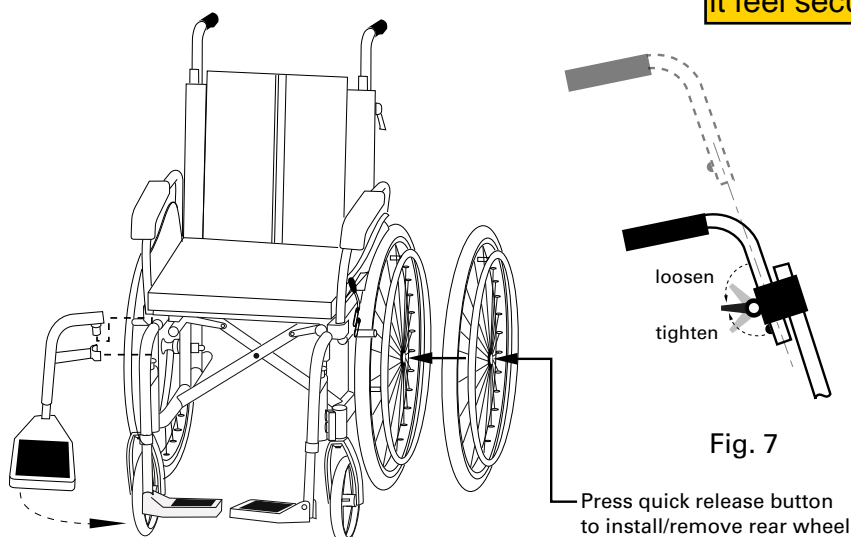

Fig. 6
- 1.** To remove or attach the rear quick release wheels press the detent release button on the axle with your thumb and pull to remove or push to attach. (ref. fig. 6)
- 3.** Attach the footrest hangers by sliding it into the frame from the outside and then swinging it towards the front allowing the catch to hold the footrest in place securely. Flip footrest down for feet to rest upon. (ref. fig. 6) To remove pull the release lever on the footrest hanger and swing to the outside of the chair. Lift the hanger off the frame.